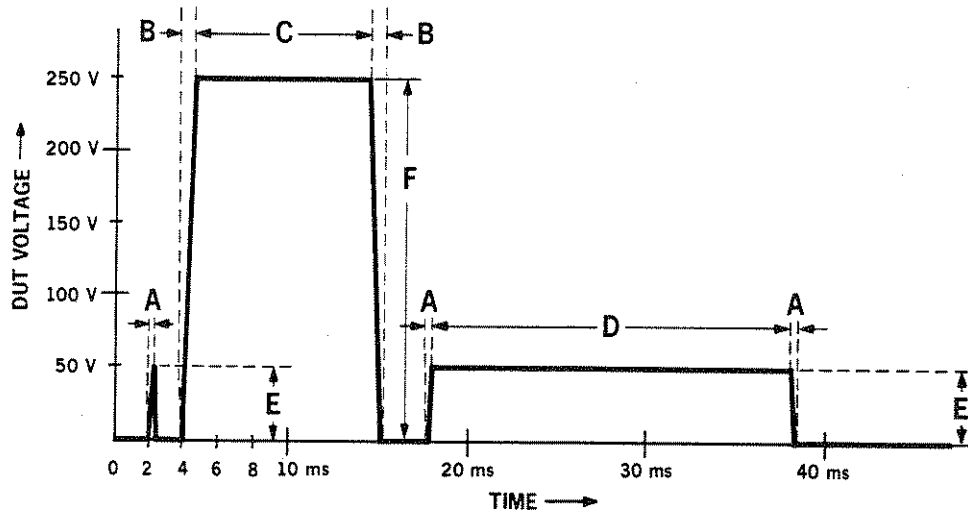

Figure 5-3. Test Waveform with 50 mA Charge Rate
STEP 9. Initiate a test and observe the waveform on the oscilloscope. The waveform should appear as shown in Figure 5-3. All of the dimensions labeled in the waveform should be within the ranges specified in Table 5-4.